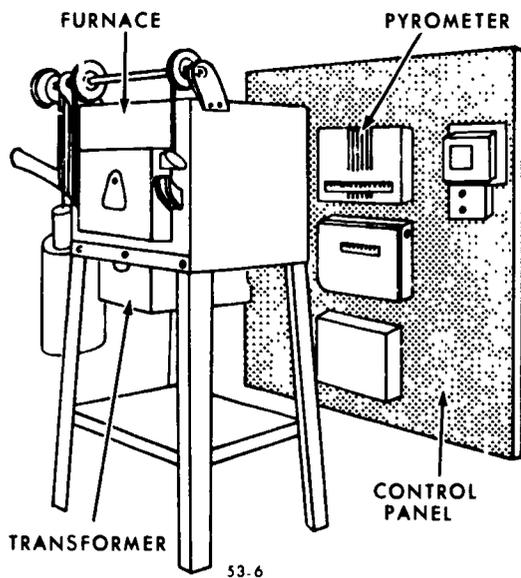
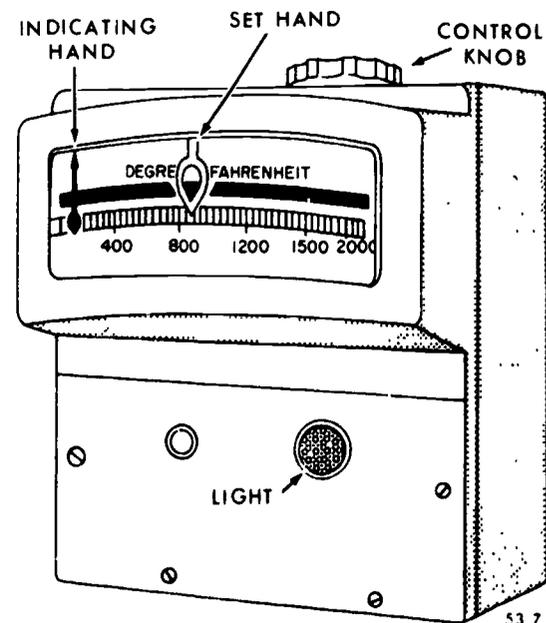

Figure 6. Electric furnace.
Figure 7. Pyrometer.
**9-3. Electric furnace.** Most furnaces used by the Air Force are of the still air, electrically heated type, as illustrated in figure 6. Electrically heated furnaces are used because they are clean, efficient, and automatic, and they require very little maintenance. They operate on the same principle as electric toasters, electric irons, and electric stoves. An electric current is passed through a conductor having a high resistance, and heat is generated. An accurate temperature control and indicator called a pyrometer, shown in figure 7, is used to maintain constant temperatures. It is set to the desired temperature and indicates when that temperature has been reached. Then it turns the current off and on so that the temperature setting is accurately maintained.